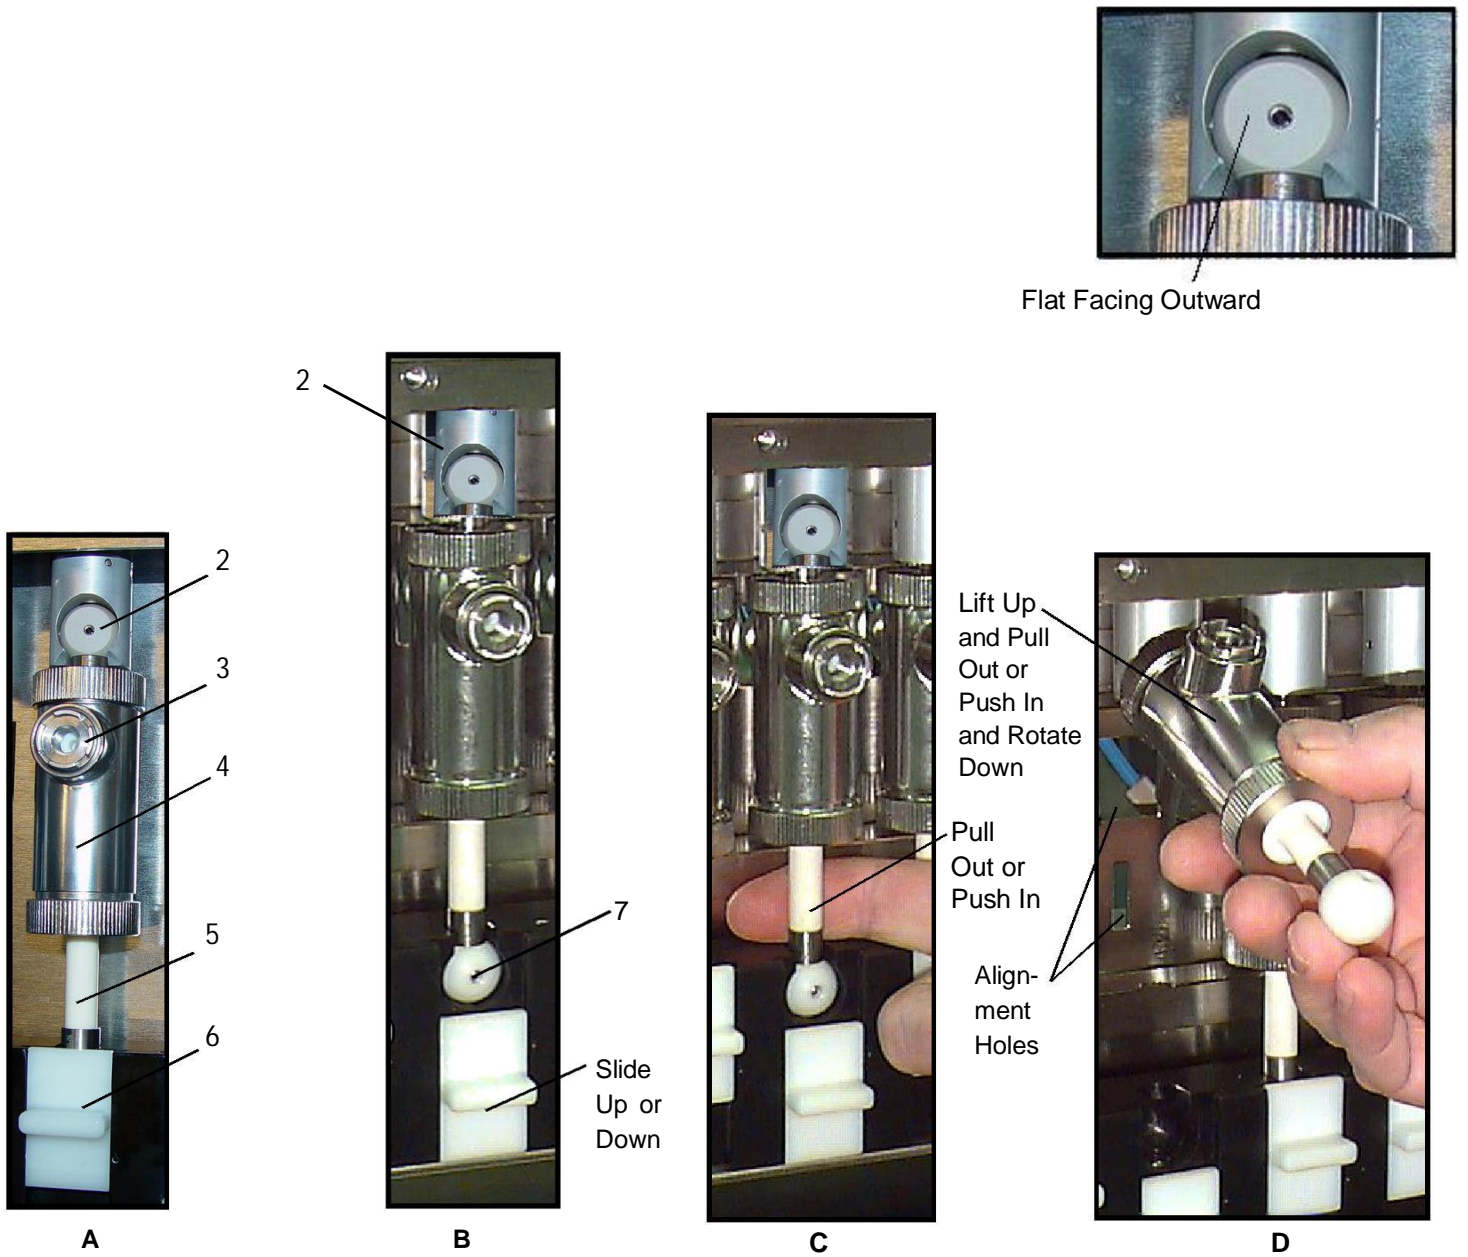

Figure 7.3 LF Multiplex Pump Module Assembly/Disassembly
- Ceramic Piston Fabrication (1)
- Case (4)
- Ceramic Cylinder (7)
- Valve Retainer Washer (9)
- Ceramic Valve Fabrication (10)
**7.5.2.1 Pump Module (Figure 7.3)**
Removal: (Figure 7.3)